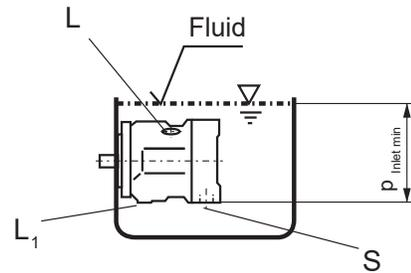

Fig. 3
- If the minimum fluid level is above the top of the pump leave ports "L", "L1" and "S" open (see Fig. 3)